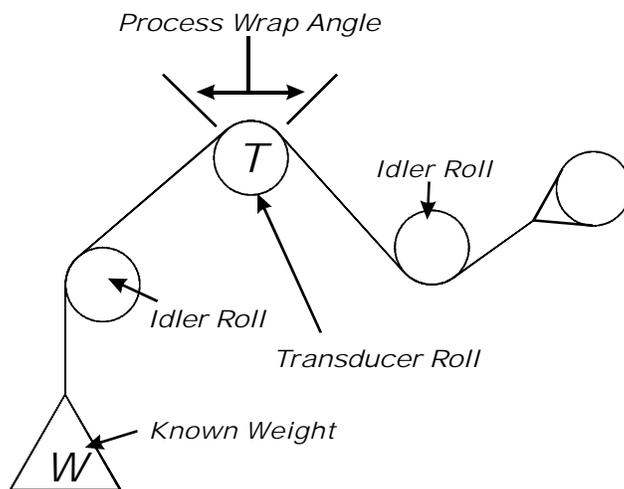

FIG. 2-11 SPAN CALIBRATION/SPAN WEIGHT
- Place the certified test weight on the end of the cable or cord. (See Fig. 2-11)